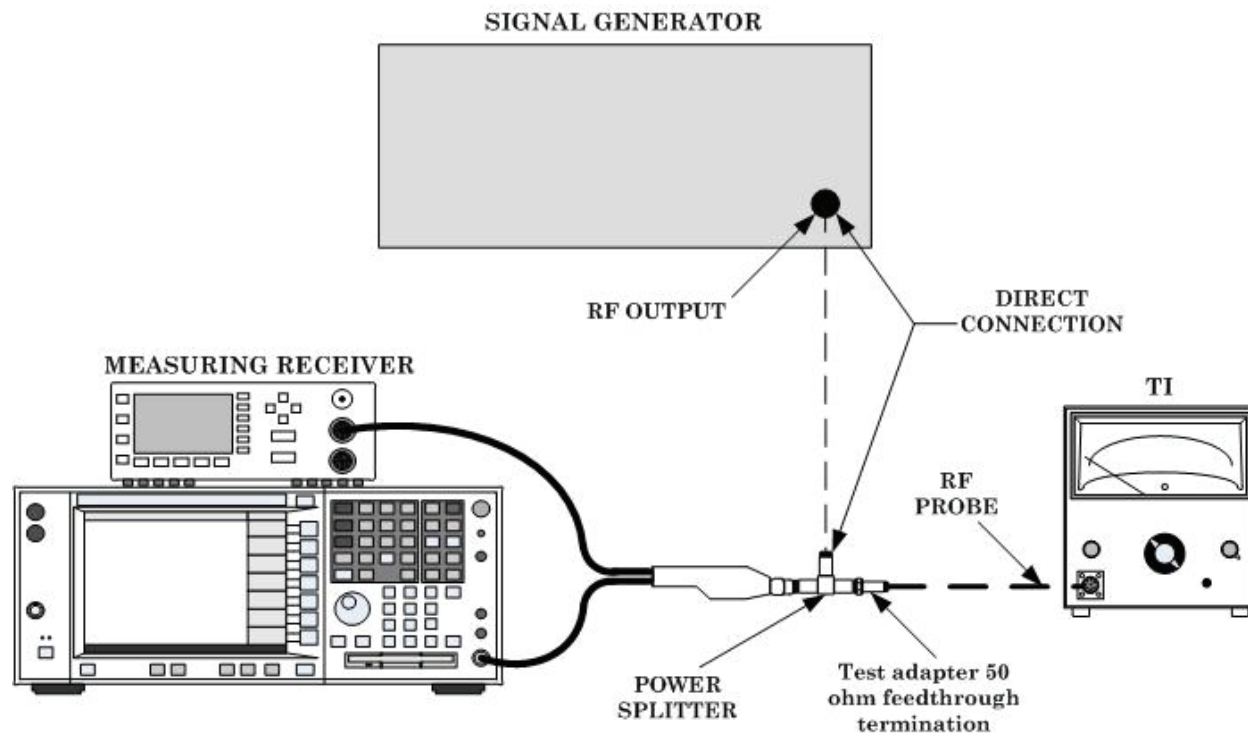

Figure 2. Frequency response - equipment setup.
- (6) Connect equipment as shown in figure 2.